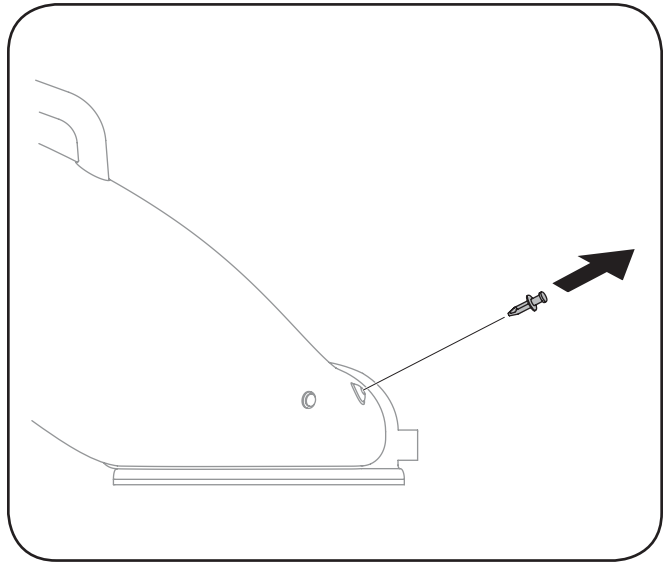

Figure 12
3. Pull the rivet's plunger upward to unlock it and remove the rivet from the hole in the chute. See Fig. 12.